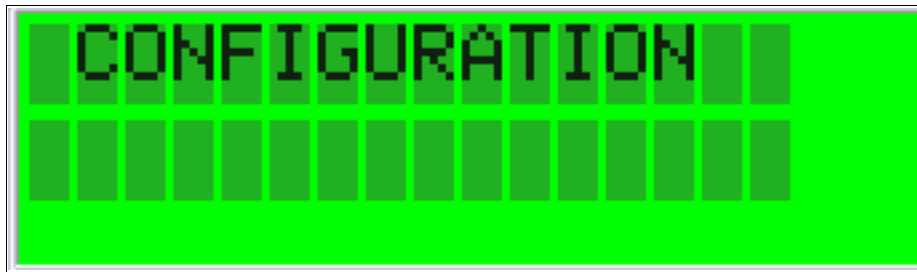

Figure 7-11 TS2900 Tape Autoloader Configuration panel
4. You are now logged in to the TS2900. Proceed with the IP configuration through the next options until the panel shows you *Configuration*. Refer to Figure 7-11.